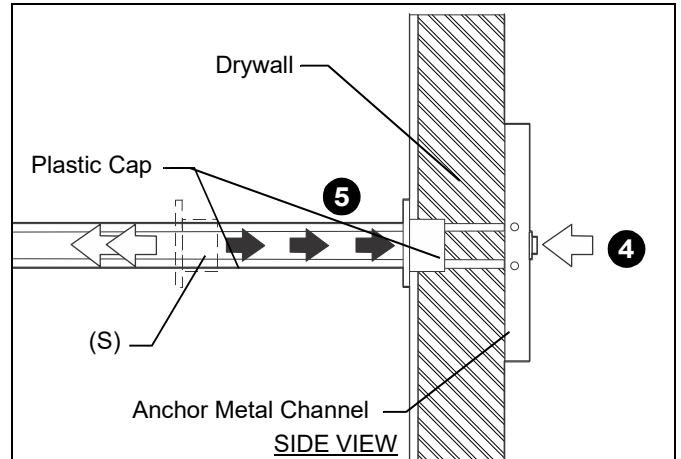

Figure 9
4. Holding plastic straps on anchor (S), pull anchor away from wall until channel rests flush behind wall making sure anchor channel is positioned vertically on drywall. (See Figure 9)
5. Slide plastic cap on anchor (S) towards wall until flange of cap is flush with wall. (See Figure 9)